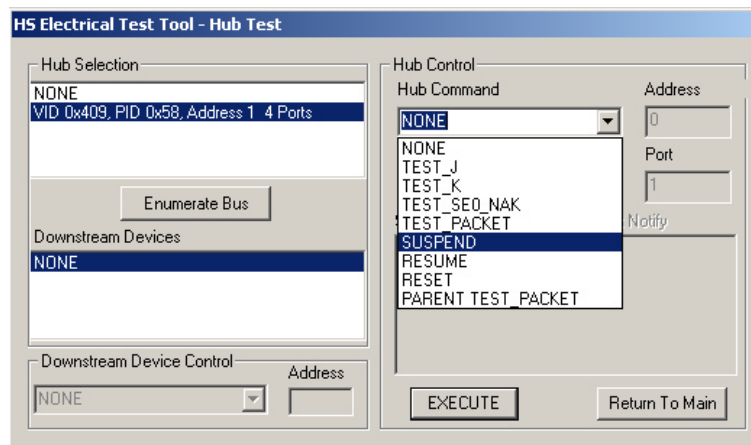

Figure 44. Hub Suspend
5. On the HS Electrical Test Tool - Hub Test menu, select SUSPEND from the Hub Command drop down menu (Figure 44).